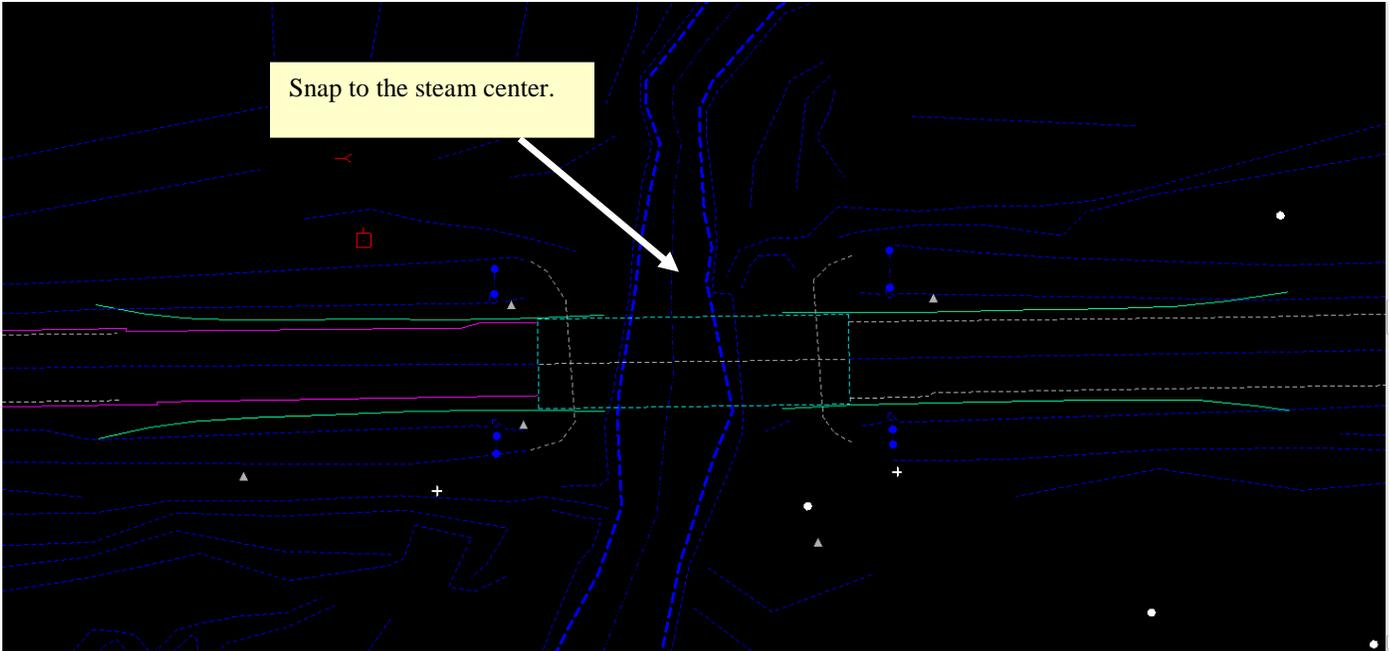
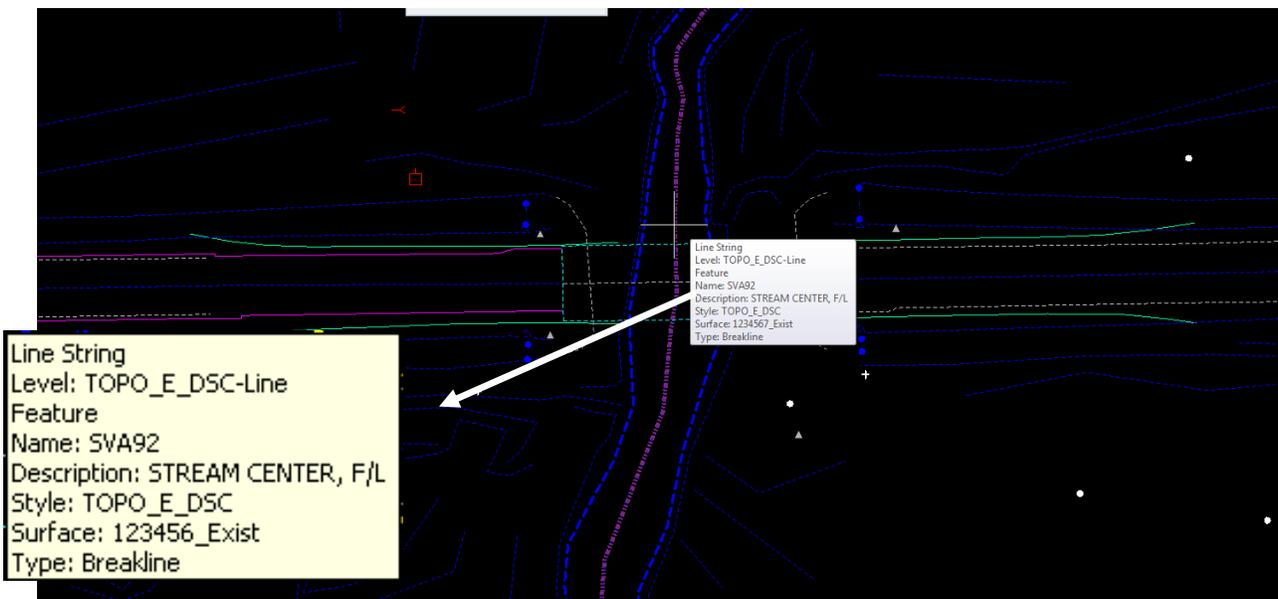

Figure L2-8 MicroStation View Window
Figure L2-9 MicroStation View Window
46.	<p>Information about elements in InRoads can be displayed using the Element Selection tool and Snapping to elements in MicroStation.</p> <ul style="list-style-type: none"><li>In MicroStation, with the Element Selection tool selected, Snap to the stream identified in Figure L2-8 and verify the element information is displayed as shown in Figure L2-9.</li></ul>